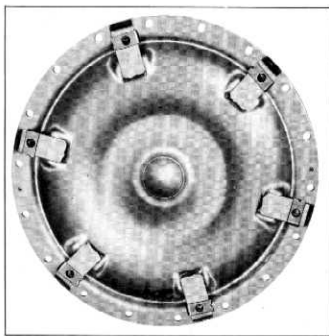

Fig. 180—Installing Converter Cover to Pump
11. Align dowel pin holes in the converter cover and the dowel pins in the converter pump and install converter cover assembly (fig. 180).